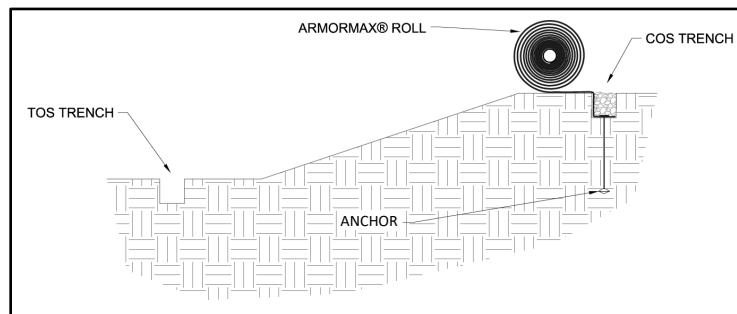

Figure 5: Crest of Slope (COS) Trench Placement
4. Backfill and compact the COS trench in the location of the first ARMORMAX panel only (Figure 5).